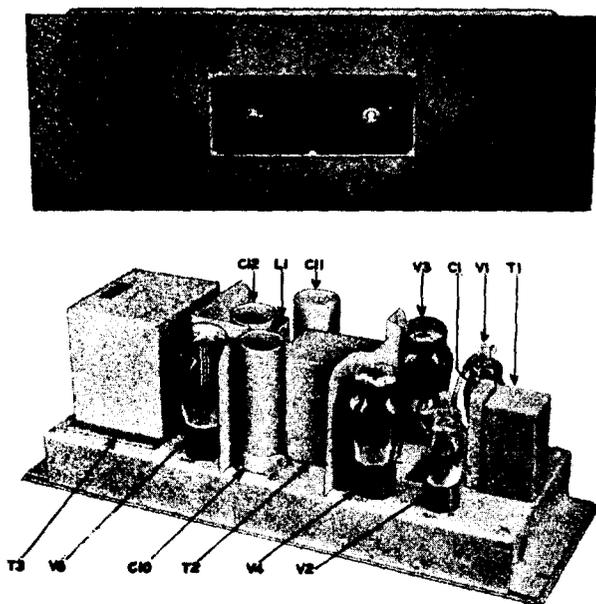

Fig. 2 - 94D Amplifier
3.01 The 94D amplifier is shown in Fig. 2. It is arranged for standard 19-inch mounting, is 7 inches high and weighs approximately 20 lbs. Its wiring diagram is shown in the instruction bulletin.